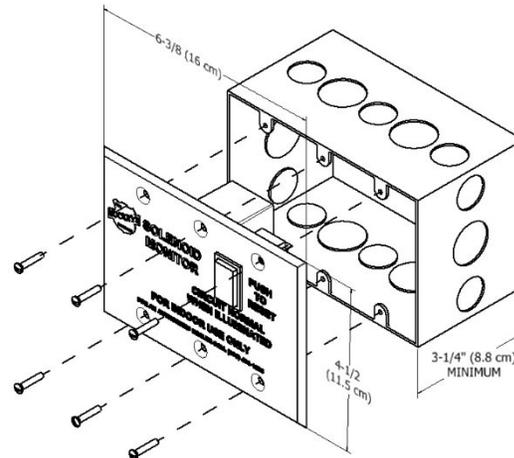

Figure 4-58
2. The panel mounts directly to a three-gang electrical conduit switch box (provided by others), that is at least 3-1/4" (8.3 cm) deep. See **Figure 4-58**.